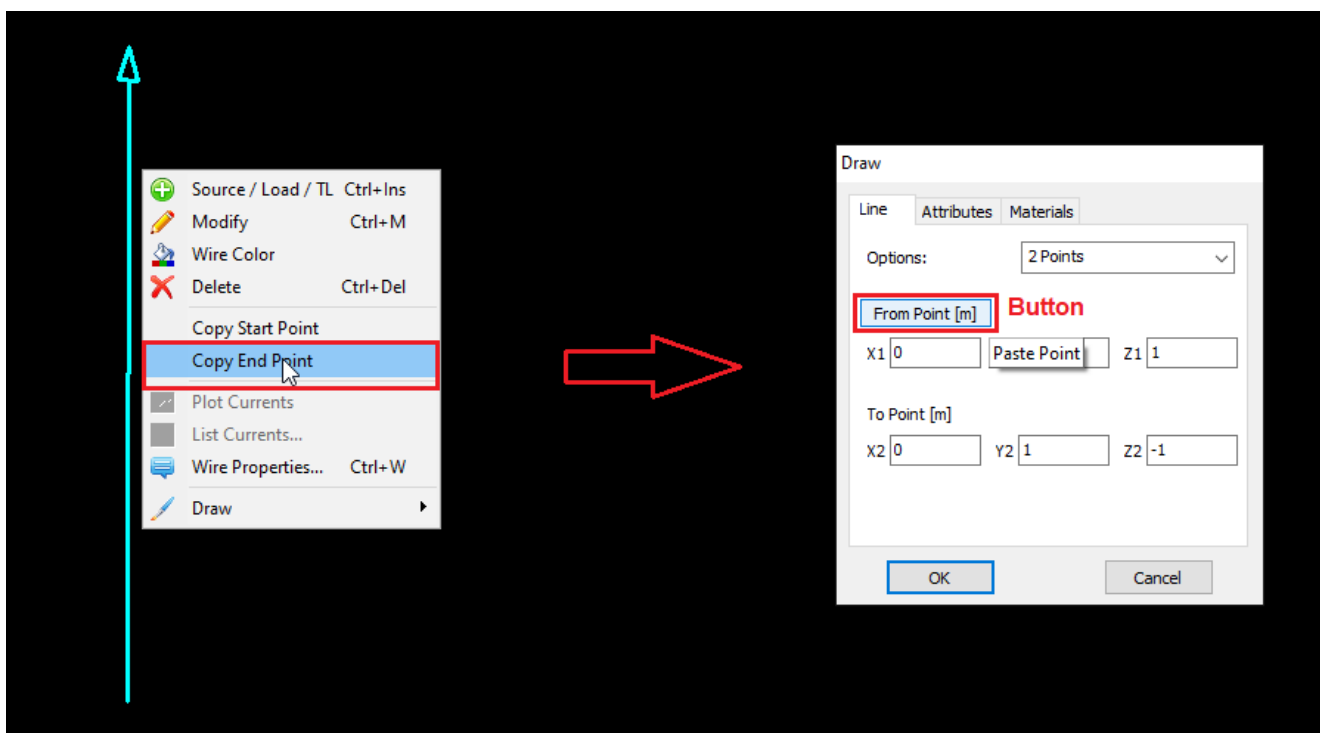

Fig. 2: Connecting wires by copying and pasting ends.
3. Paste the copied point in the **Draw** dialog box when adding a new wire by clicking the **From Point** button, located just above the start point coordinates (**X1, Y1, Z1**) (see Fig. 2).